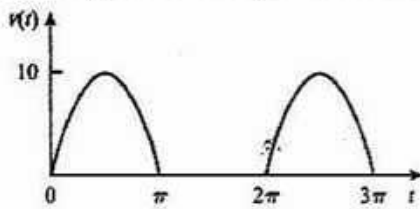

Fig. 7(b)
- (b) Find R.M.S voltage of following Sinusoidal voltage shown in Fig.7(b) [15]